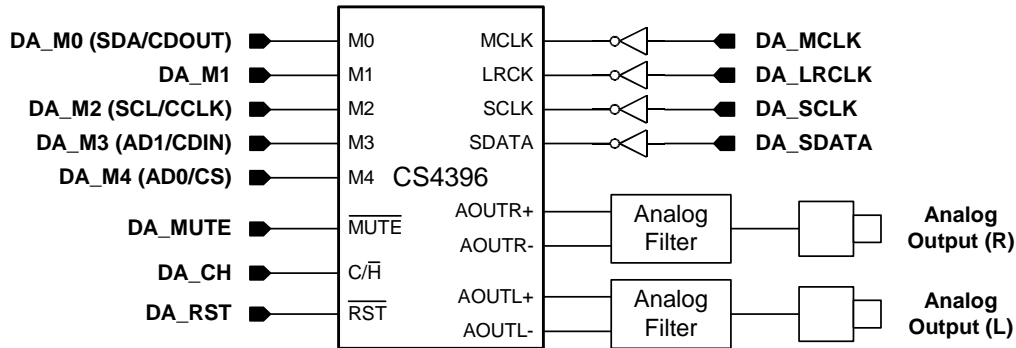

Figure 6: Block diagram of the DAC circuit.
The DigiAudio board has one stereo Digital-to-Analog Converter (DAC) circuit to produce high quality analog signals for audio reproduction. The DAC circuit produces a pair of analog outputs, *Analog Output (L)* and *Analog Output (R)*. The block diagram of the DAC circuit is presented in Figure 6.